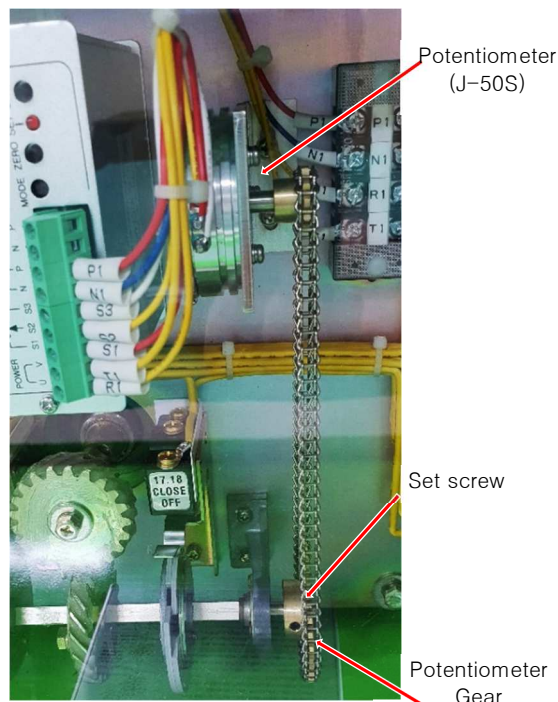

Fig.13 : Adjustment of Potentiometer
- (1) Actuator should be located on 50% position after operating with auto or manual mode.
- (2) As described Fig.13, if screw set are removed, potentiometer gear's each operation can be executed.
- (3) With using multi-tester, connect Potentiometer's S1 terminal and S2 terminal.
- (4) Potentiometer gear shall be reached into 500Ω and rotate and adjust.
- (5) Tighten set screw again and potentiometer gear may be connected with cam shaft again.